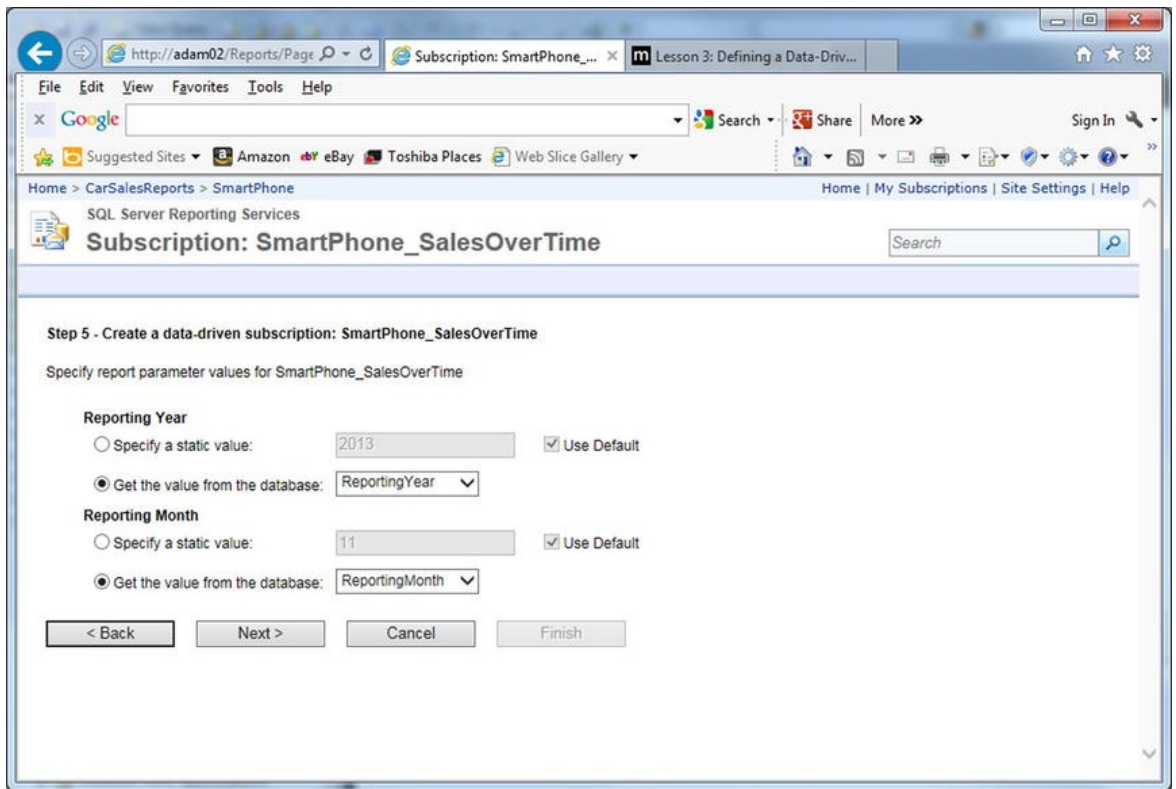

Figure 12-20. Setting parameters for a data-driven subscription
12. For all the parameters in the report, either select a field from the database (returned by the SQL query that you provided earlier) or enter a fixed value. The browser window will look like Figure 12-20.